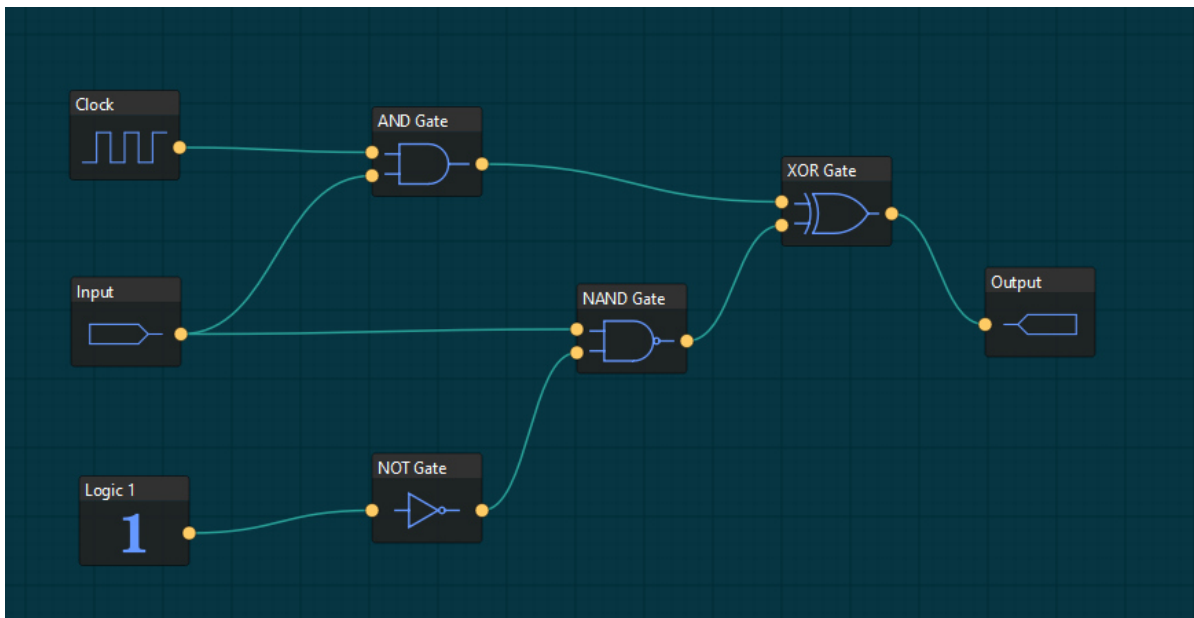

Figure 3: Steps to Launch Custom Module
5. After the user has created the desired design, click on the Generate Verilog button on the right to automatically generate the Verilog code for the design created in Macro Cell Editor(See Figure 3)